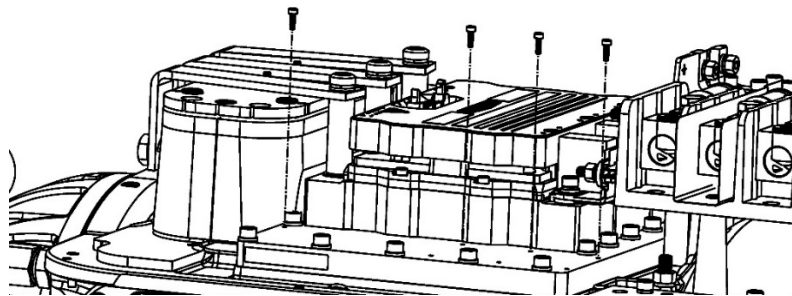

Figure 5 – Rear Potted DC-DC Converter Fasteners
5. After the removal of the DC-DC Converter, completely remove the four (4) DC-DC Converter fasteners closest to the Inverter. Refer to Figure 5 (Rear Potted DC-DC Converter Fasteners).